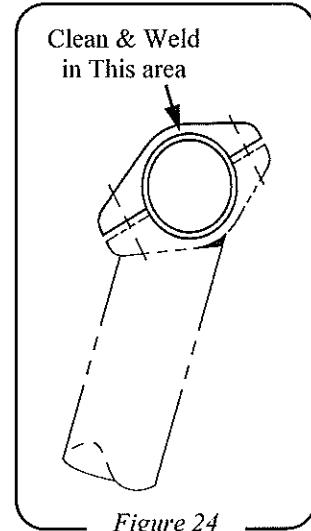

Figure 24
- D. Place a 3/8" fillet weld in the region shown (*Figure 24*).